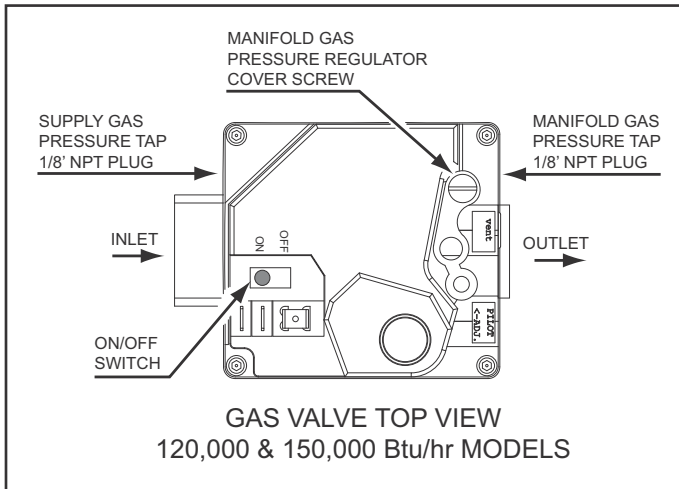
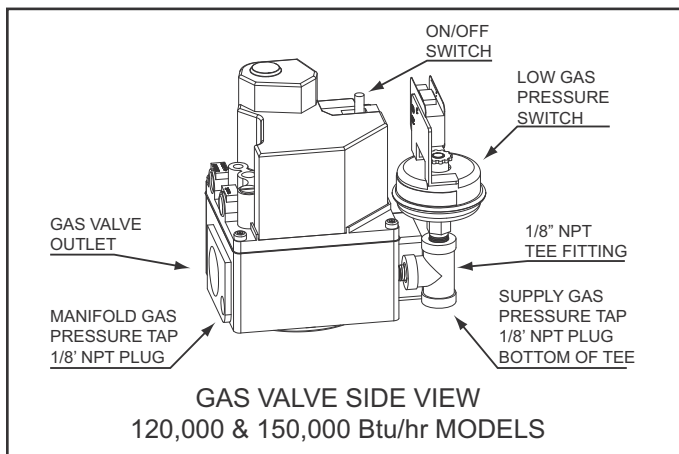

Figure 57
Figure 58
On BTH 120 and 150 models there is a 1/8" NPT Tee fitting and pipe nipple installed for the Low Gas Pressure switch on the inlet side of the 24 Volt Gas Valve with a 1/8" pipe plug for this purpose. Remove the 1/8 inch pipe plug from the bottom of the Tee fitting and install a barb fitting to connect the manometer sensing tube, see Figure 58 on page 53.
BTH 120 & 150 models: remove the 1/8 inch pipe plug from the body of the gas valve on the outlet side and install a barb fitting to connect the manometer sensing tube, see Figure 57 on page 53.
1. BTH 120 & 150 models: turn the on/off switch on the gas valve to the "on" position, see Figure 57 and Figure 58.
2. Remove the manifold gas pressure regulator cover screw, see Figure 57 on page 53.